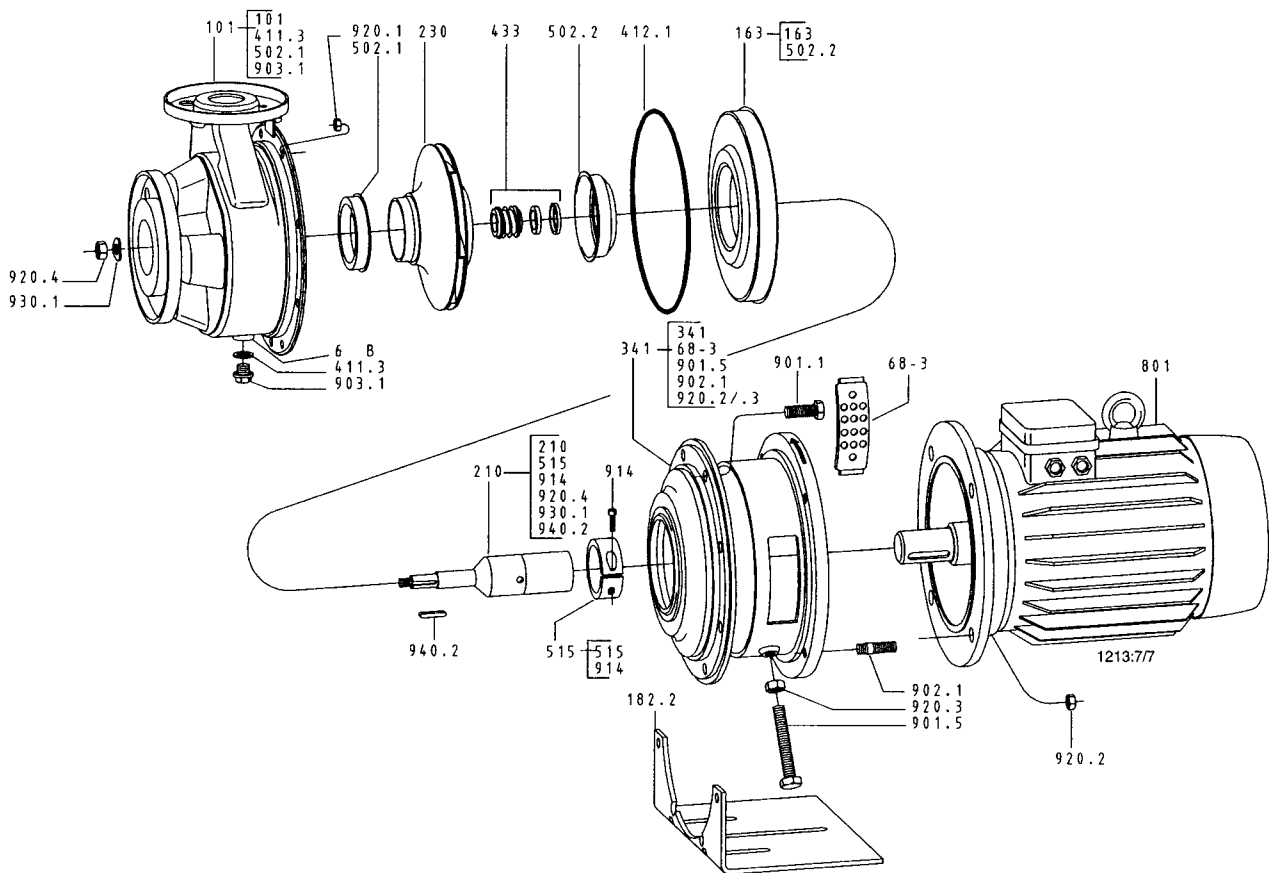

Figure 14-2 Exploded View
1) see Figure 14-2 to locate the parts